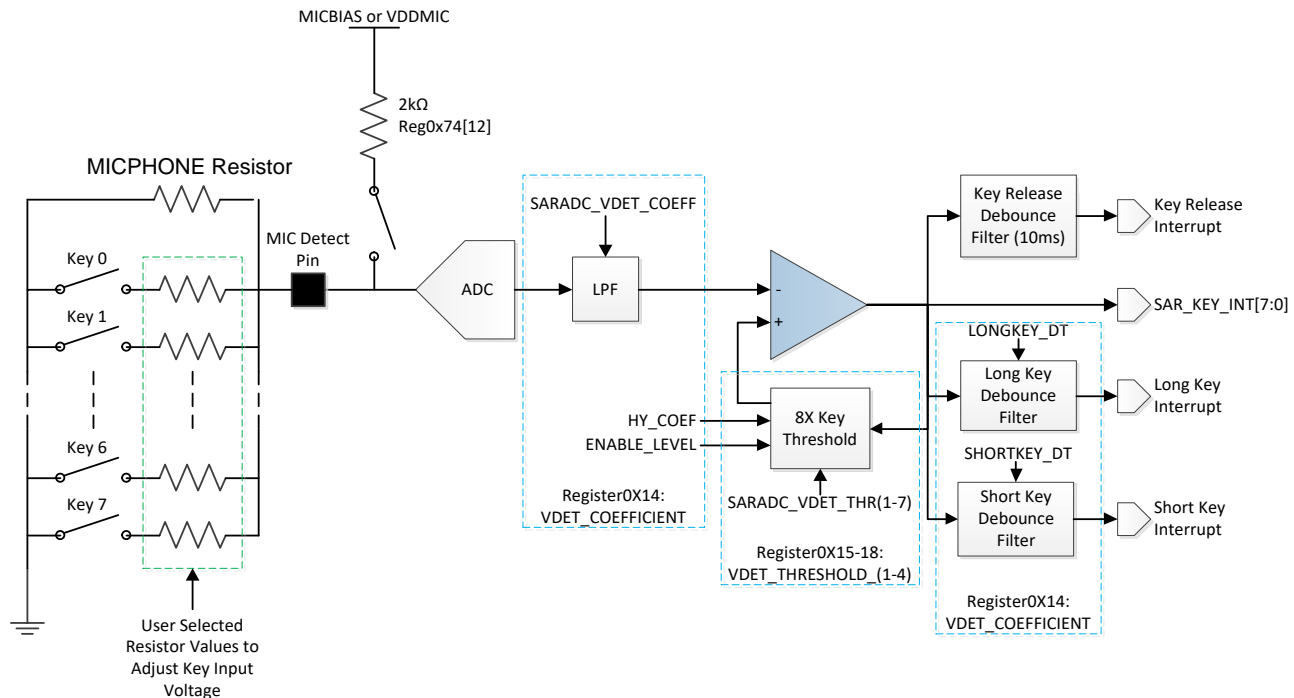

Figure 35: Key Detection
- 5) According to Figure 35, three threshold voltage levels for Key2 level could be set by **ENABLE\_LEVEL=010**. First threshold voltage could be 98, the middle of 116 and 80 from 3) and 4). Hysteresis value can be set to 15, less than 50% of difference 116 and 80.
- **VDET\_COEFFICIENT.HY\_COEFF\_REG0X14[3:0]** can be used to change the hysteresis range. The SARADC voltage needs to be lower than the hysteresis range to go into the lower level Key. On the other hand, voltage needs to be higher than the hysteresis range to go into a higher level key. This is shown by the dashed lines in Figure 35. If the voltage sampled is in the hysteresis range, the level needs to be compared to the previous state. For example, if the previous stat is Key 2 and the new sample is in the Key 1 hysteresis range, the logic will claim the status is still Key 2.